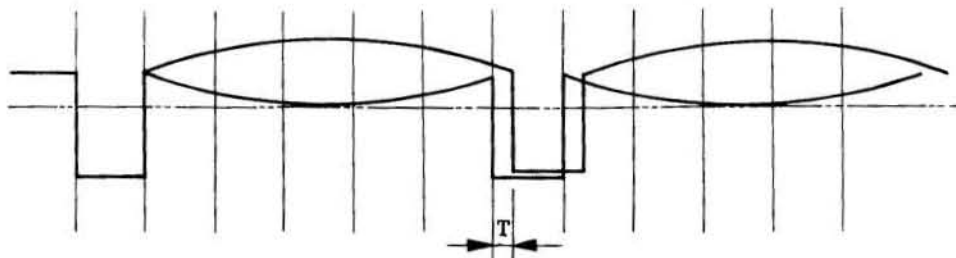

Fig. 9.7 Asymmetry Waveform
- (4) Write 1F.
- (5) A read wave form is displayed on the oscilloscope as shown in Fig. 9.7.